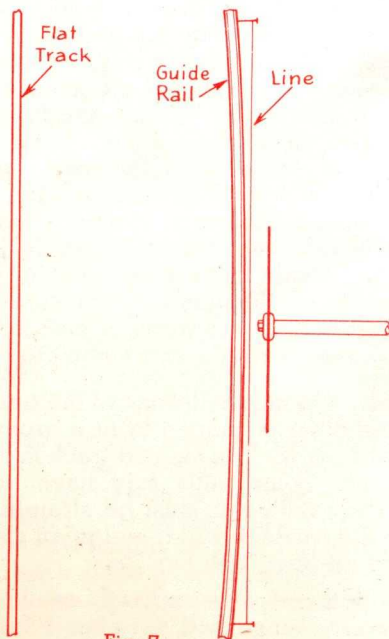

Fig. 7
**Track.** On most mills one of the tracks is flat while the other is shaped to fit a groove in the carriage wheels. The shaped track is called the guide rail. Some mills may have two guide rails. The guide rail must be straight. If it is bowed, the carriage will travel in an arc instead of a straight line. See Fig. 7.